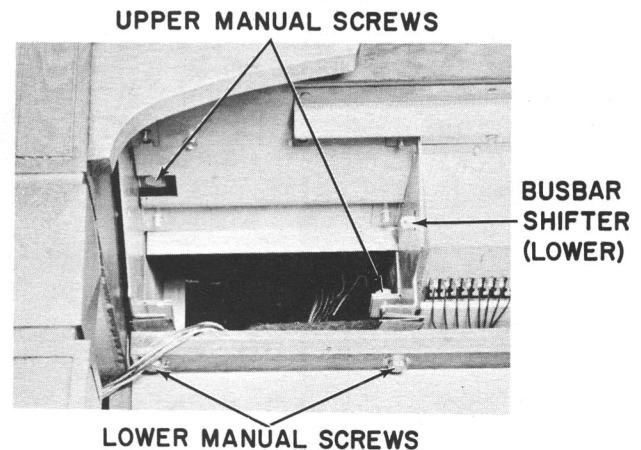

Figure 3-2. Location of Upper Manual Attaching Screws, Left Front
- b. Remove two 1/4-20 hexagon head screws from underneath manual at left end (Figure 3-2).